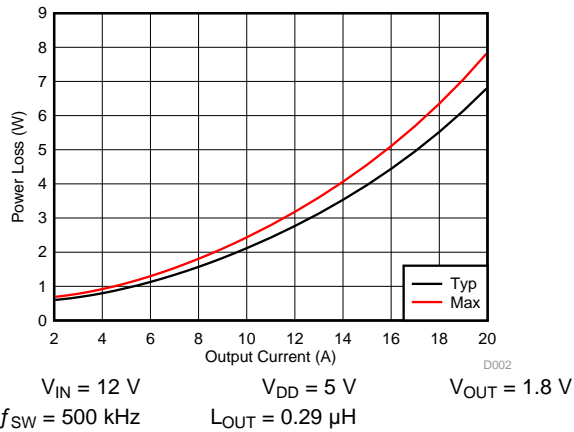

Figure 4. Power Loss vs Output Current
MOSFET centric parameters such as  $R_{DS(ON)}$  and  $Q_{gd}$  are primarily needed by engineers to estimate the loss generated by the devices. In an effort to simplify the design process for engineers, Texas Instruments has provided measured power loss performance curves. Figure 4 plots the power loss of the CSD97394Q4M as a function of load current. This curve is measured by configuring and running the CSD97394Q4M as it would be in the final application (see Figure 15). The measured power loss is the CSD97394Q4M device power loss which consists of both input conversion loss and gate drive loss. Equation 1 is used to generate the power loss curve.
The power loss curve in Figure 4 is measured at the maximum recommended junction temperature of  $T_J = 125^\circ\text{C}$  under isothermal test conditions.
- Typical Power Loss at 10 A = 2.1 W (Figure 4)